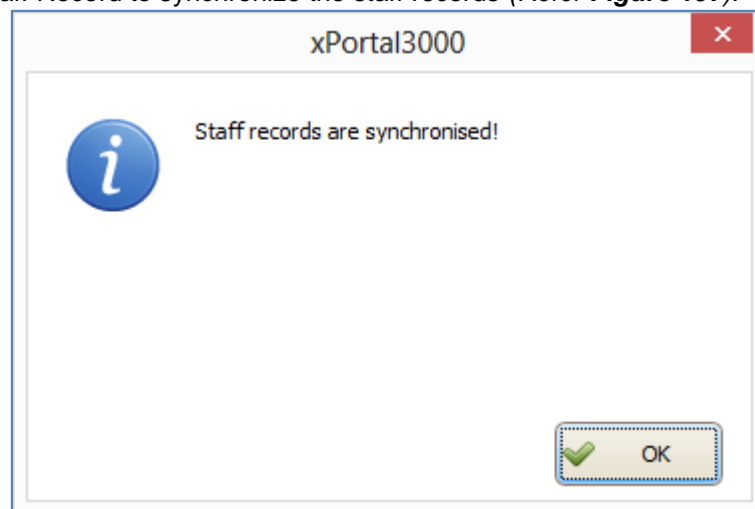

Figure 197 - Rebuild Staff Records
7. Click Rebuild Staff Record to synchronize the staff records (*Refer Figure 197*).